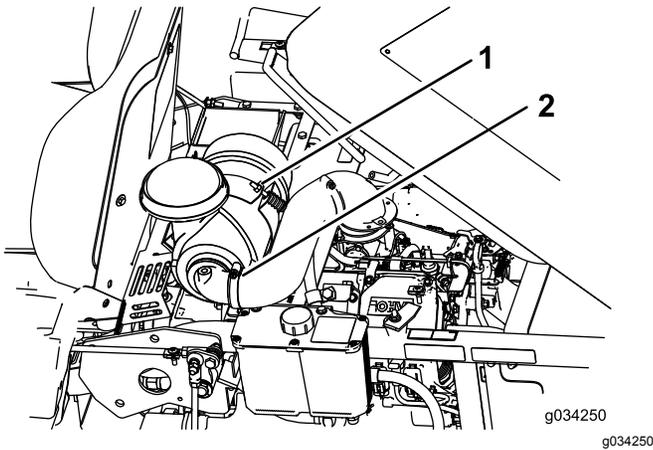

Figure 30
2. Loosen the bolt holding the air cleaner (Figure 30).
- Loosen the clamp holding the hose and remove the air-cleaner (Figure 30).